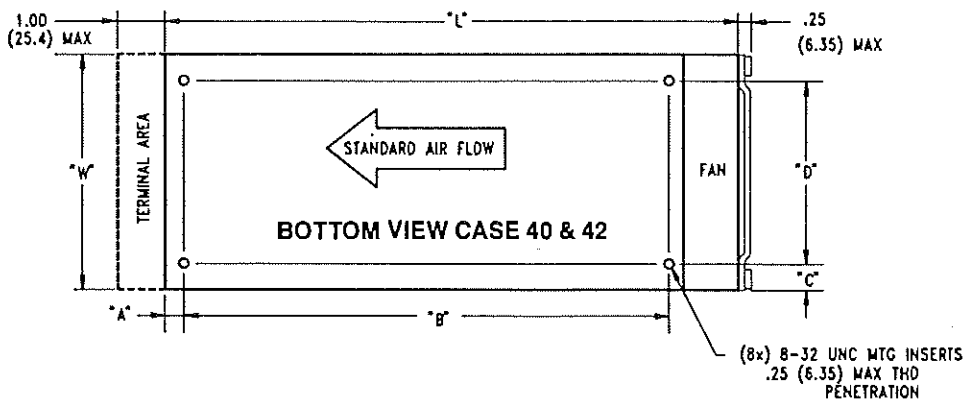

Figure 8. Mechanical Dimensions
- 12.1 **Mounting.** See Fig. 8. The F Series has two mounting surfaces, one on the bottom and one on the side, each with four threaded mounting inserts. The inserts accept no. 8-32 screws with maximum penetration of 0.25 inch (6.4mm). Maximum torque on these screws is 19 in.-lbs.